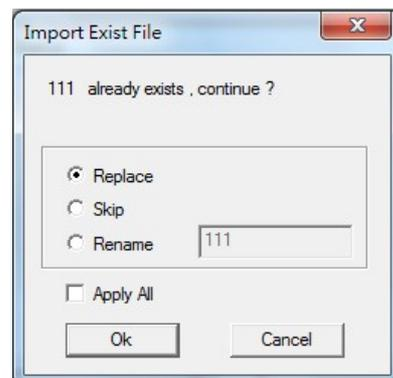

Fig. 3.1.02
2. Select the items and click “...” to select the folder user want to export or import, then click “Import” or “Export” button. If the name of lens has already existed, the system will pop a warning dialog box, see Fig.3.1.02. Please notice that “\*Jen (Lens cor. File) is only used for version 2.4, so it can only be import.